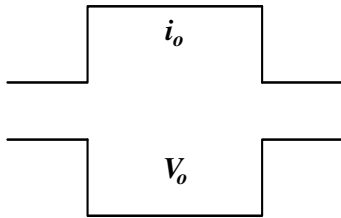
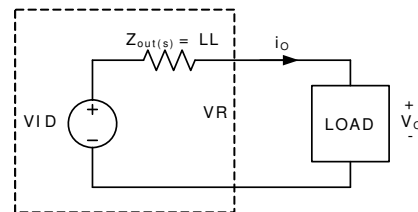

FIGURE 14. DESIRED LOAD TRANSIENT RESPONSE WAVEFORMS
FIGURE 20. VOLTAGE REGULATOR EQUIVALENT CIRCUIT
Assuming the compensator design is correct, Figure 14 shows the expected load transient response waveforms if  $C_n$  is correctly selected. When the load current  $I_{core}$  has a square change, the output voltage  $V_{core}$  also has a square response.
Figure 14 shows the desired load transient response waveforms. Figure 20 shows the equivalent circuit of a voltage regulator (VR) with the droop function. A VR is equivalent to a voltage source (= VID) and output impedance  $Z_{out}(s)$ . If  $Z_{out}(s)$  is equal to the load line slope LL, i.e. constant output impedance, in the entire frequency range,  $V_o$  will have square response when  $I_o$  has a square change.